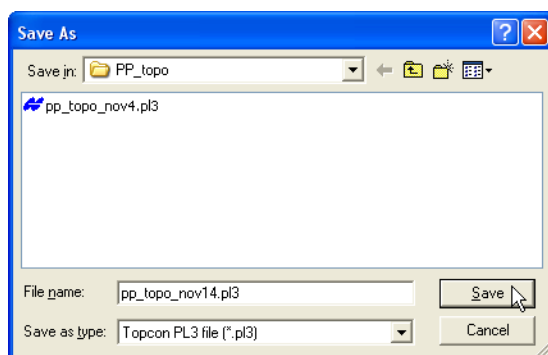

Figure 7-18. Save Plane File
2. On the *Save As* dialog box, type a name for the new plane surface file or select a plane file to replace. Click **OK** to export the file (Figure 7-18).